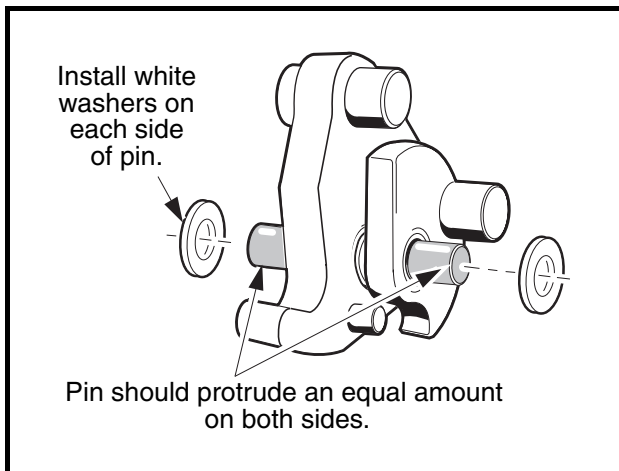

Figure 17-14 Install White Washers
10. Install white plastic flat washers on each end of the mounting pin and push them against the outside surfaces of the weights. Center the weights and washers on the mounting pin (**Figure 17-14, Page 17-11**).
11. Install the weight assemblies into the slots in the hub casting (**Figure 17-9, Page 17-9**). Make sure the mounting pin protrudes an equal amount on each side of the weights when the assemblies are in position (**Figure 17-14, Page 17-11**).